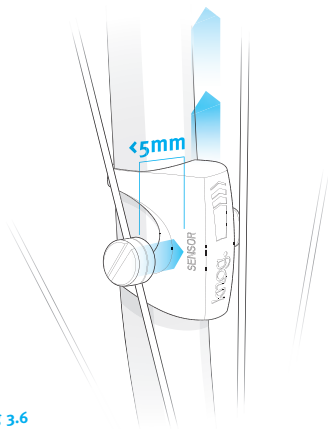

Fig 3.6
5. Once mounted, move the transmitter unit around to ensure the closest mounting position relative to the spoke magnet. Optimum sensing distance between the magnet and the transmitter housing is <5mm. (Fig 3.6)